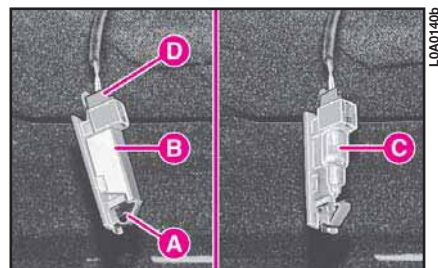

fig. 41
2) Press the two sides of shield **B** (**fig. 41**) at the fastening clips and remove it.